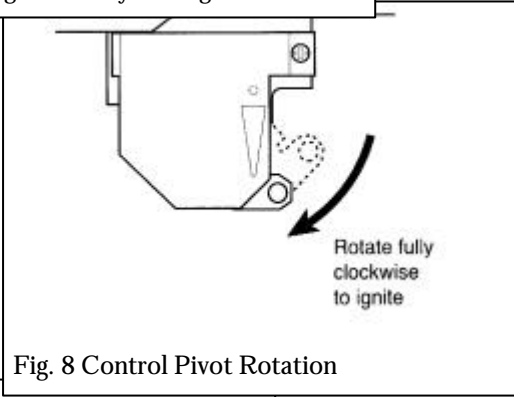

Fig. 8 Control Pivot Rotation
3.1.2 Rotate the control pivot bracket clockwise as far as it will go (see figure 8). This should close the ignition circuit.